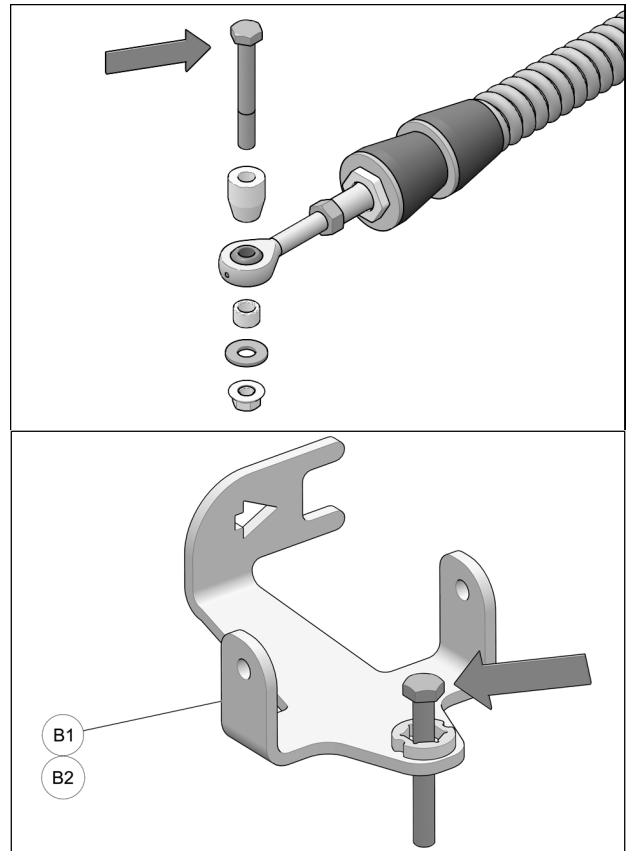

Fig. 3
4. Remove bolt, washers and spacer bushings from rear stabilizing rod end and insert bolt in the rear anchor bracket (**B1-B2**) as shown in Fig. 3